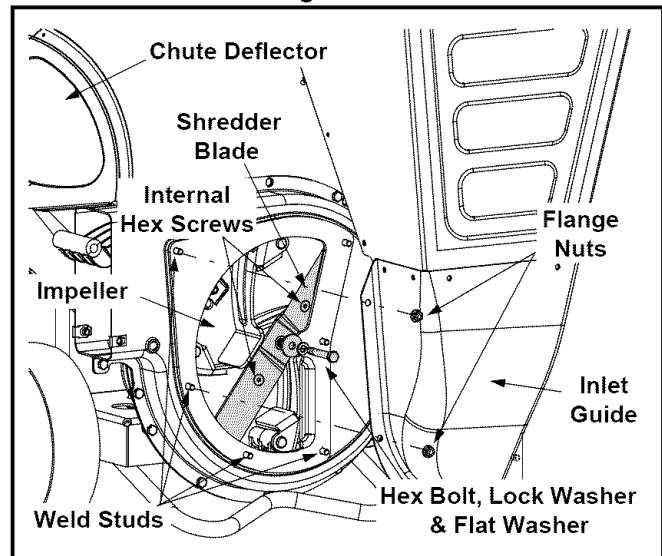

Figure 11
- Remove the six flange nuts which secure the hopper inlet guide to the impeller housing. See Figure 11.
- Remove the two internal hex screws which secure the shredder blade to the impeller. See Figure 11.
NOTE: Use a 3/16" hex key (Allen) wrench on the outside of the shredder blade and a 1/2" box (or socket) wrench on the inside of the shredder blade. See Figure 11. Hold the Allen wrench stationary and rotate the box (or socket) wrench to loosen the nut.